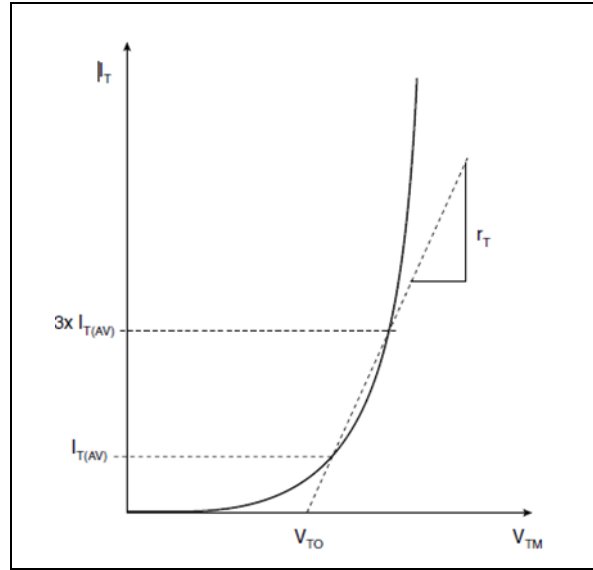

Fig. 2
2. As fig. 2, where a chord is drawn through $I_{T(AV)}$ and $3x I_{T(AV)}$. For rectifier diodes, a chord through $3x I_{T(AV)}$ and $5x I_{T(AV)}$ sometimes gives a better result.